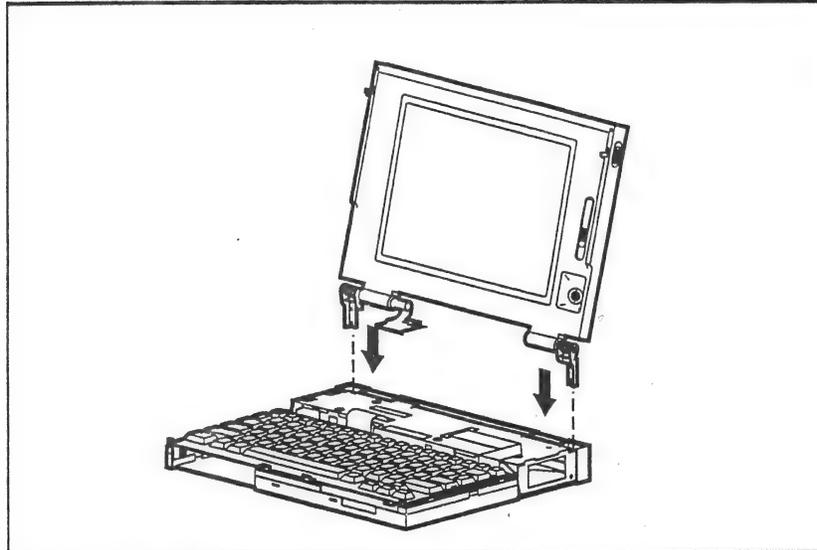

Figure 2-13. Aligning the Display Panel
1. Position the display panel by aligning the display clutches with the CPU base (Figure 2-13).